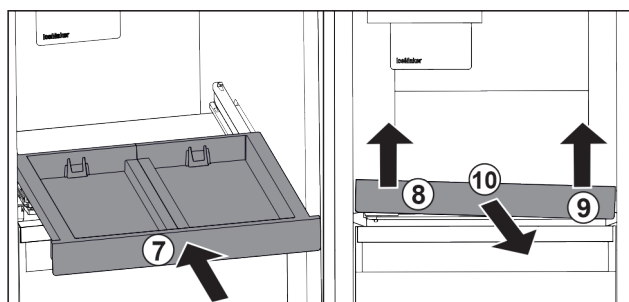

Fig. 140
- ▶ Slide in the pull-out board. Fig. 140 (7)
- ▶ Lift the pull-out board on the front left. Fig. 140 (8)
- ▶ Lift the pull-out board on the front right. *Fig. 140 (9)*
- ▶ Take out the pull-out board to the front. *Fig. 140 (10)*